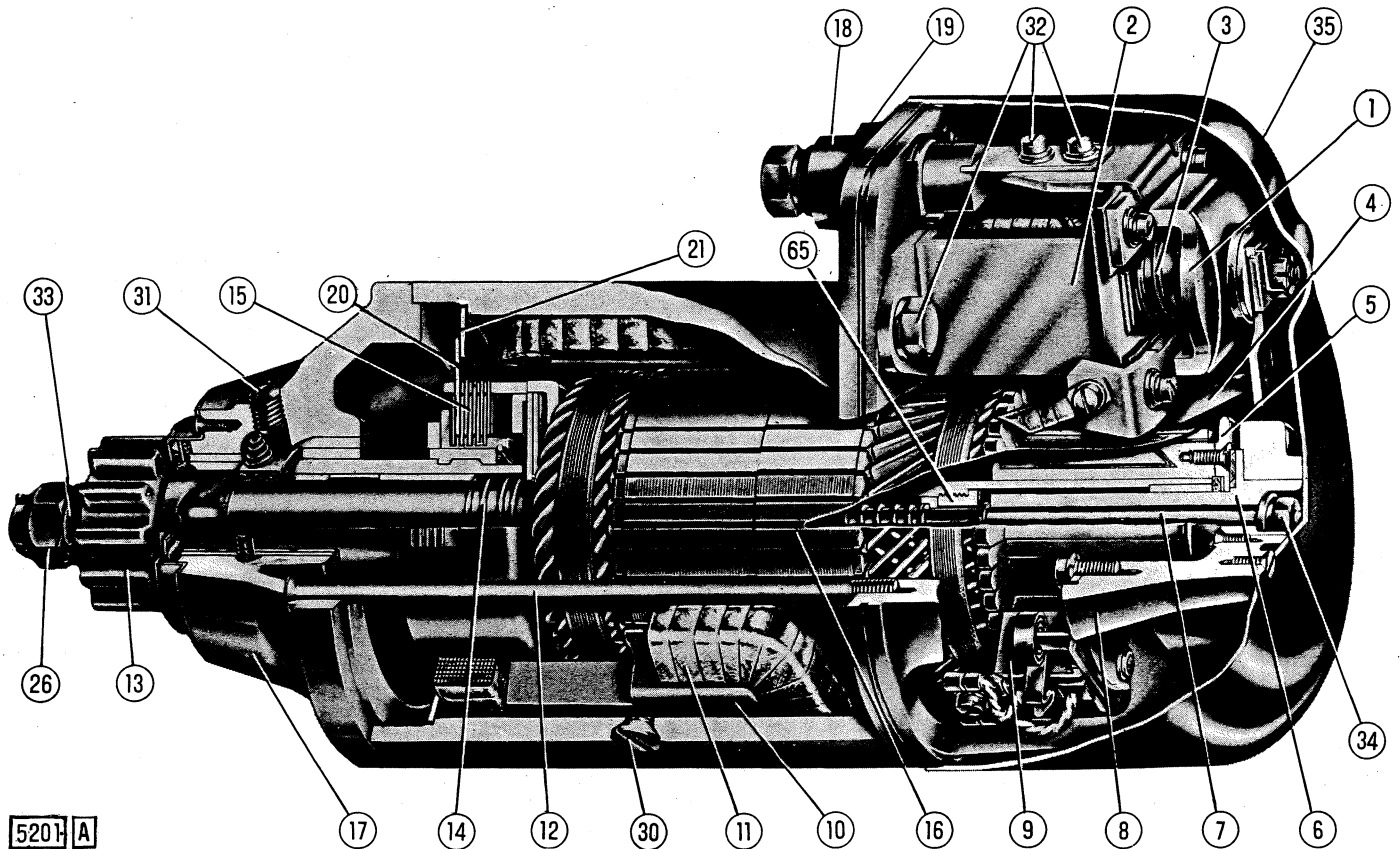

Fig.13 - Cut-away of Marelli axial drive starter series.
- a solenoid starter switch (2, Fig. 13) with a double set of moving contacts, the upper of which closes first hence energising the auxiliary windings whilst the lower one, on the excitation of the main winding, closes afterwards being retarded by the stop (4);
- an armature revolving on self-oiling bushings which, in the first stage, turns slowly as the auxiliary windings are energized and at the same time moves axially to engage the pinion with the flywheel gear, to disengage the stop (4, Fig. 13) and to exert pressure on the return spring.
Remove starter from tractor and disassemble it on workbench as follows: separate brackets from carcass by removing the protection shield (35, Fig.13), brushes and field winding terminals, nut (34) and the four through-roads.